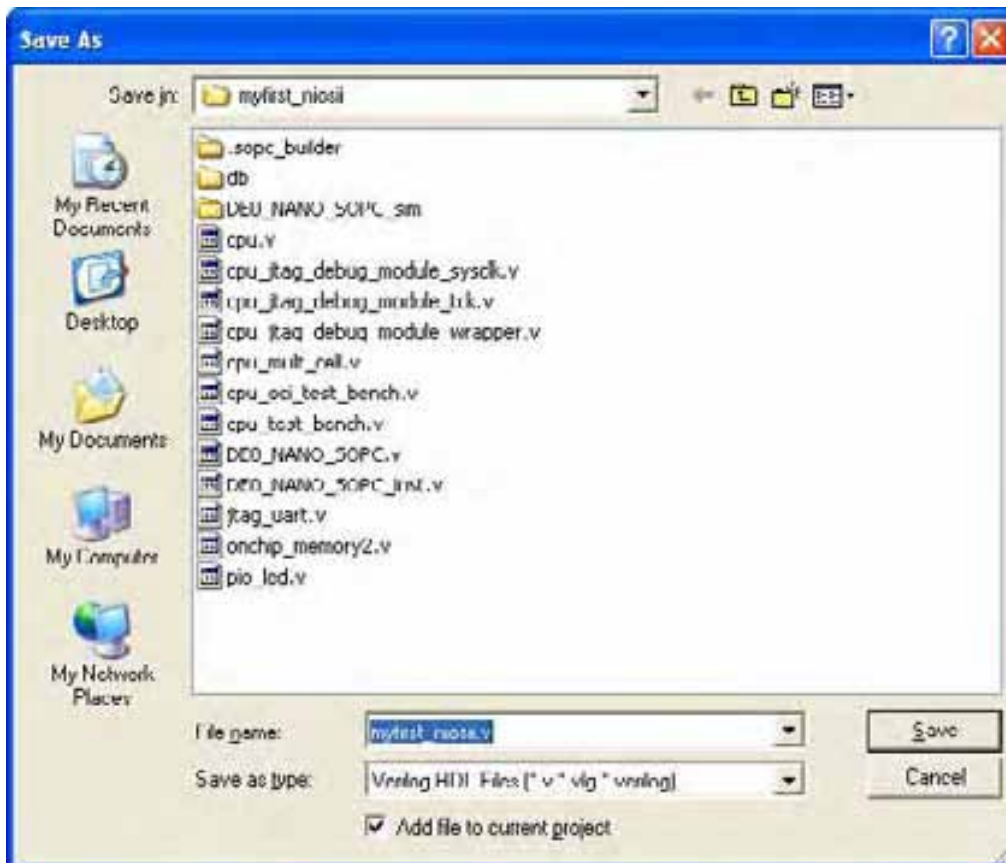

Figure 7-46 Save the Verilog file
35. Save the newly created Verilog file as **myfirst_niosii.v**, as shown in Figure 7-46.